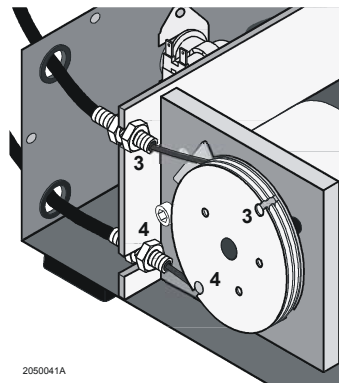

Fig. 2:6 How to connect the wires inside the Drive Unit (DU)
5. Use the **two buttons** on the DU (Fig. 2:4 pos 7) to control the movements of the motor.
9. The wires, for raising and lowering the sample rods, goes from the EU (Fig. 2:2 pos.6) marked 3--4, to the DU (Fig. 2:5 pos 3 and 4).
12. Use the **two buttons** on the DU (Fig. 2:4 pos 6) to control the movements of the motor.